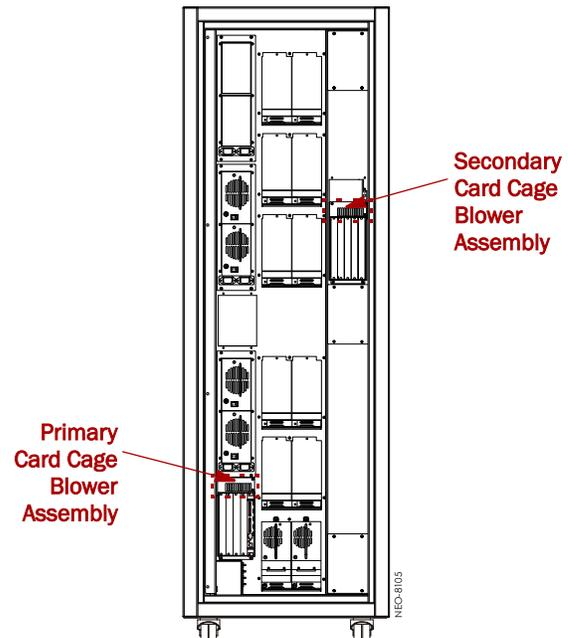

Figure 1. NEO 8000 Blower Assembly Locations
4. Locate the **blower assembly** being replaced (Figure 1).